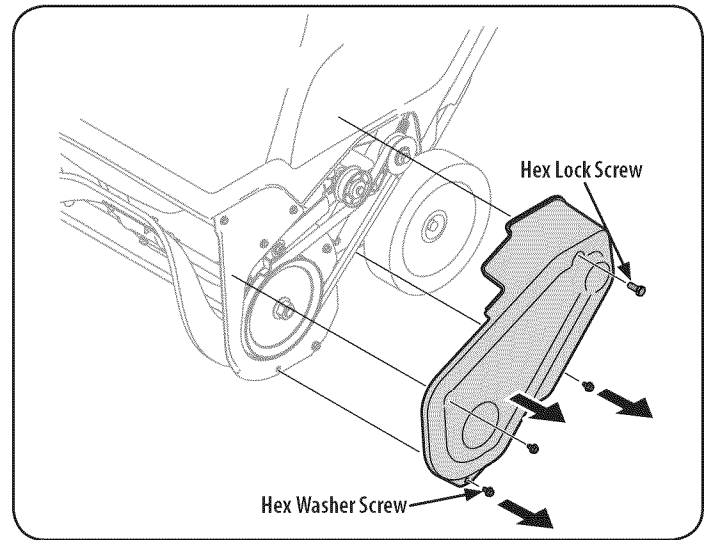

Figure 16
4. Remove the belt cover by removing the two hex washer screws and one hex lock screw that secure it to the frame. See Figure 16.